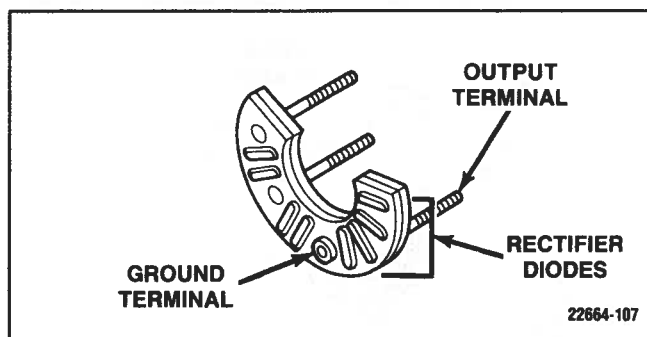

Figure 6-132. Diode-Rectifier Bridge
- a. Using a commercial diode tester, check for continuity from each of three terminals to output terminal. (Figure 6-132)